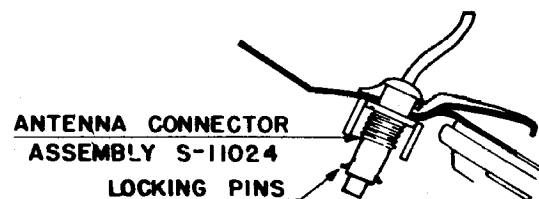

Fig.2.
2. Be sure the antenna lead is properly fastened to the antenna connector at the instrument panel. In order to repair a loose antenna lead, the receiver and speaker should be removed from the car. The loose connection may be caused by either the antenna cable socket spreading open, or the locking pins breaking from the antenna connector. The cable socket can be easily reshaped with a pair of pliers. If the locking pins are broken (Fig.2.), the connector, insulator and stationary tube assembly No. S-11024 must be replaced.